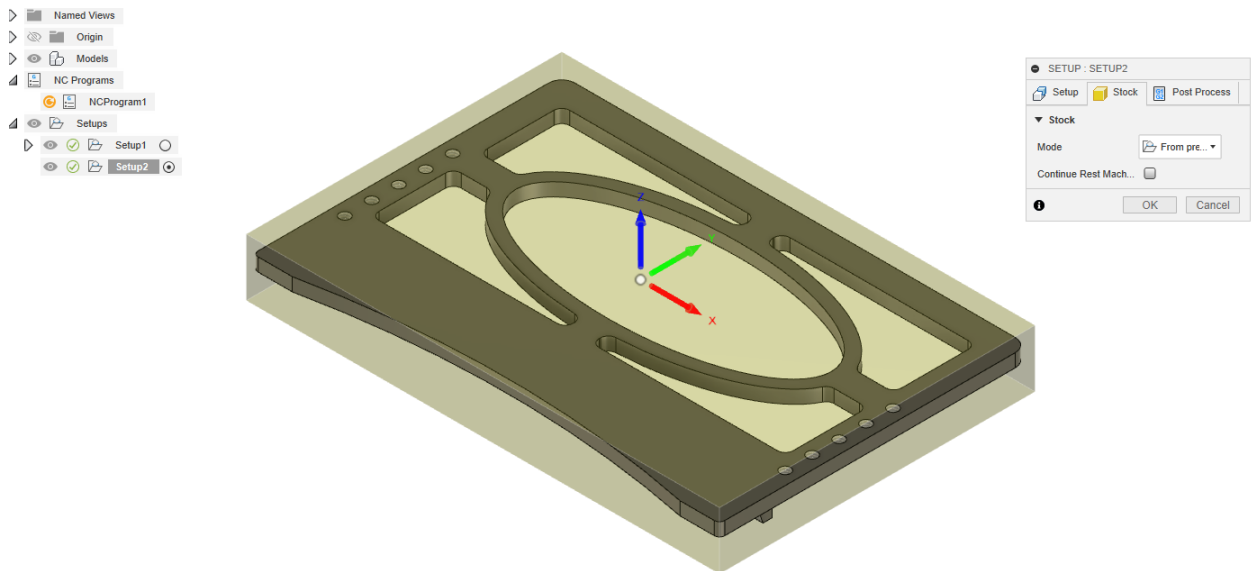

Figure 2. Recommended WCS orientation for setup 2.
3. Add a second setup to the Tablet Stand leg with the part flipped over, similar to what is shown in figure 2.